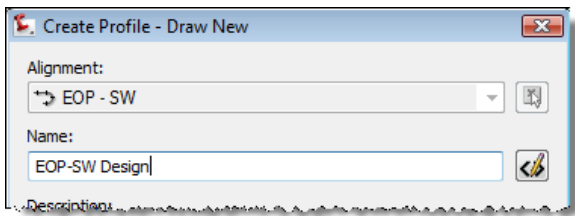

Figure 18
18. Give the profile a descriptive name as shown in Figure 18.